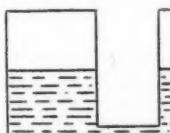
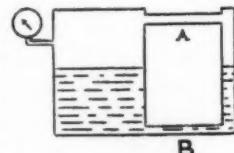
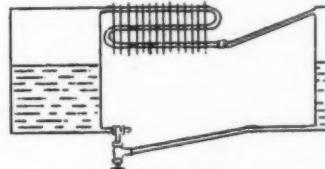

FIG. 1.
FIG. 2.
FIG. 3.
placed in the tube will rise in the legs until the same level is reached. Thus regardless of whether the top of each leg is opened to the atmosphere as in Fig. 1, or if the tops are closed and connected together by a pipe as shown in Fig. 2, and a pressure applied, the level will still be the same. If the liquid
in Fig. 2 were a refrigerant the pressure applied would be that of its temperature-pressure relationship. If the large container to the left is considered as the liquid receiver, the one to the right will be the indicating apparatus of the Liquigage, the connection at the top (A) replaced by an air or water-cooled condenser and the longer flexible hose of the Liquigage; and the connection (B) at the bottom replaced by the adapter valve tee, operating valve and short flexible hose of the Liquigage, the result is the essential circuit of the Liquigage testing method (Fig. 3). Since the Liquigage tube is transparent the height of the liquid can be measured on the scale.